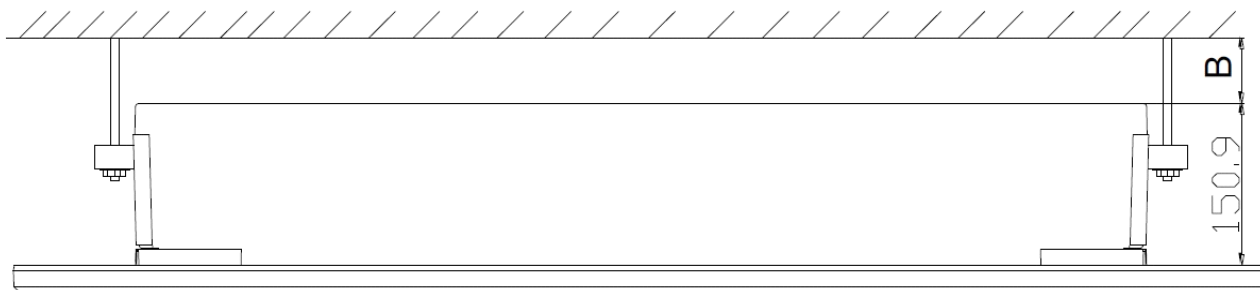

Figure B.6
- Confirm height between the bottom of upper deck and top of ceiling is sufficient for installation. (Figure B.6)